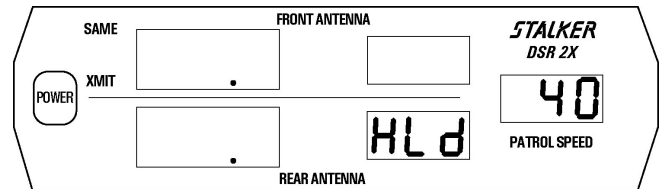
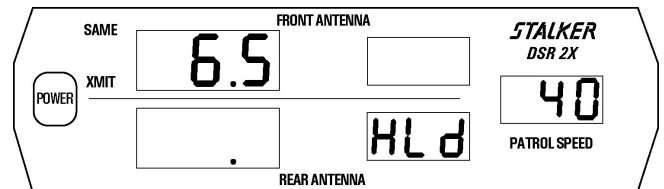

Fig. 58
Fig. 59
Quickly hold the tuning fork approximately two (2) inches in front of the active antenna, with the narrow edge of the fork facing the antenna. The patrol window should indicate 40 ± 1 mph (64 kph) (Fig. 58). Then move the lower speed fork in front of the antenna with the narrow edge facing the antenna. The target window should register $65 \text{ mph} \pm 2 \text{ mph}$ (104kph) (Fig. 59), which is the sum of speeds of the two forks.